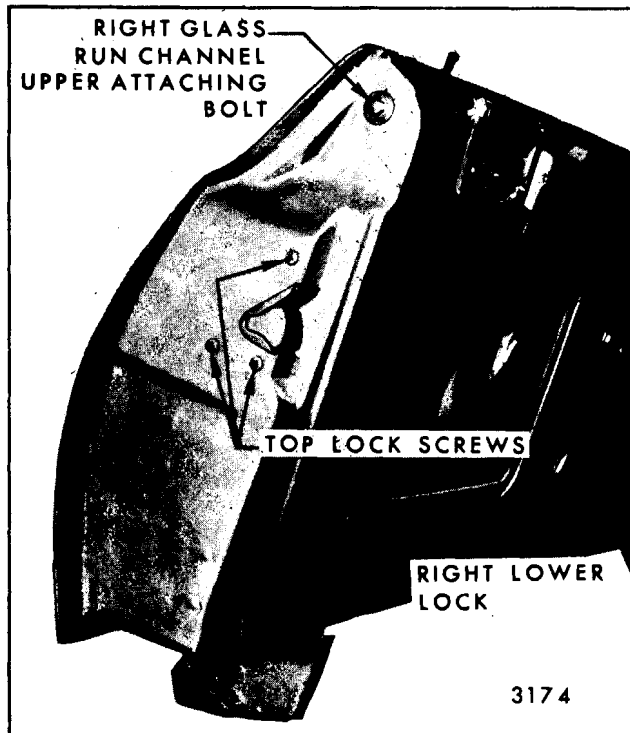

Fig. 9-42-Tail Gate Inside Handle Attachment-Gate Operation
2. Raise inside handle and disengage remote push rod from spring clip (See Fig. 9-42).
3. Remove screws securing handle to inner panel and remove handle (Fig. 9-42).